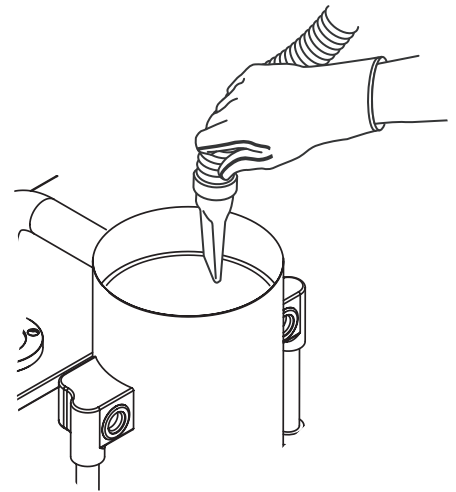

figure 24
- Gently vacuum the dust deposited on the motor (fig. 24)